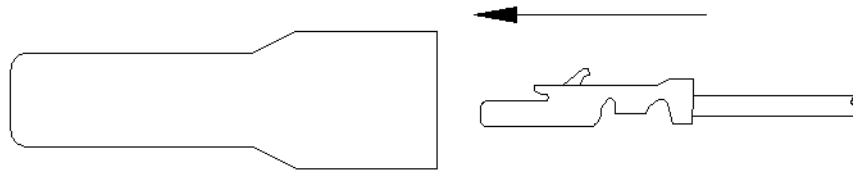

Figure 2.
- Terminal must be inserted horizontally oriented (see figure 2).
- Do not attempt to insert crimped terminal in any other direction. (see figure 2).